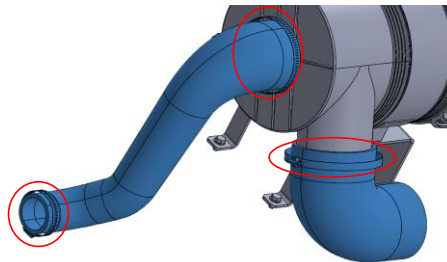

fig. 4
3. Fasten the small diameter of the Air Cleaner Hose (8) to the turbo inlet using Hose Clamp (6). Fasten the large diameter end of the Hose to the Air Cleaner (2) using Hose Clamp (7) as shown in figure 4.
4. Fasten the Intake Hose (1) to the inlet of Air Cleaner Assembly (2) using the Hose Clamp (12) as shown in figure 4.